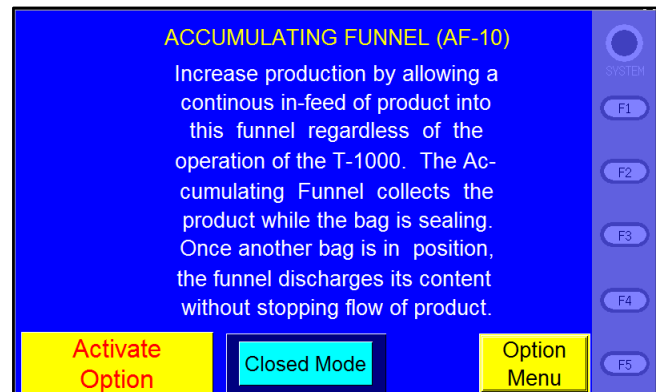

Figure 3-22
- 4) To physically open the bag with a gate that enters into the bag while the product exits the funnel. See Figure 3-22.